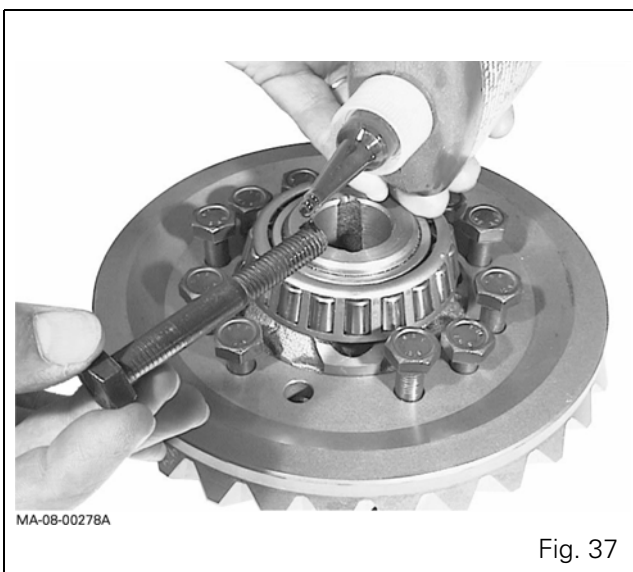

Fig. 37
43. Apply a film of Loctite 476 between the bevel ring gear and the differential housing surface. Position the bevel ring gear on the cover plate, apply Loctite 270 to the threads and attach the assembly, tightening the screws to a torque of 70 Nm (Fig. 37).